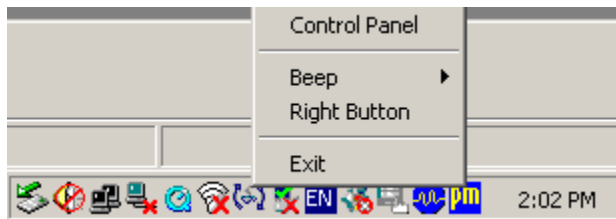

Figure 5-28: PenMount Monitor Popup Menu
Step 3: Click the icon. A pop up menu appears. See **Figure 5-28**.
Step 4: Click Control Panel in the pop up menu shown in **Figure 5-28**.